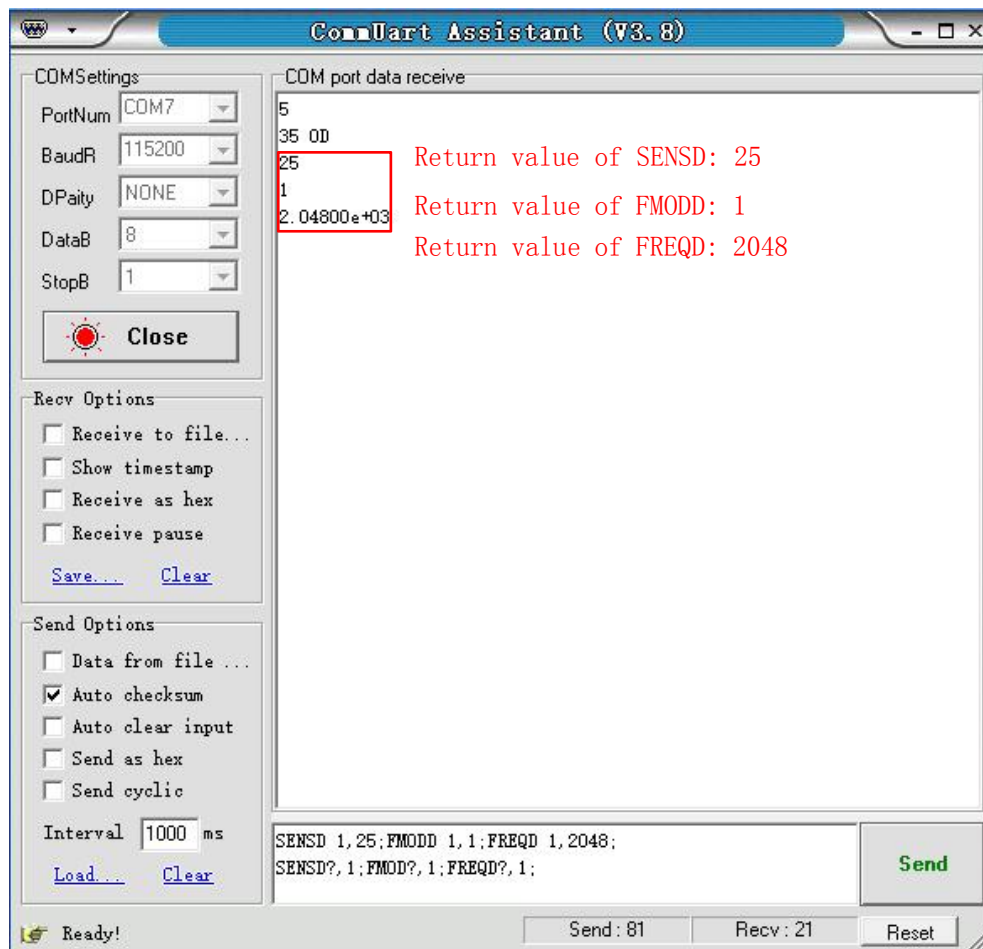

Fig.106 The execution of multiple commands
(3) Multiple commands are separated by “,” such as ‘SENSD 1,25;FMODD 1,1;FREQD ,1,2048;SENSD ?,1;FREQD ?,1’, as is shown in Fig.106.